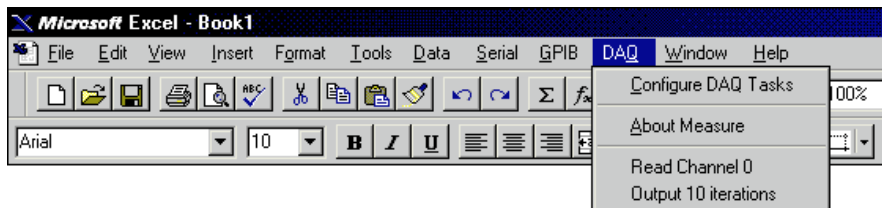

Figure 2-8. The DAQ Menu
5. Pull down the **DAQ** menu. Notice that two new entries now appear in the **DAQ** menu, as shown in Figure 2-8. Now you can select these tasks and execute them from the worksheet without going into the Measure dialog boxes.